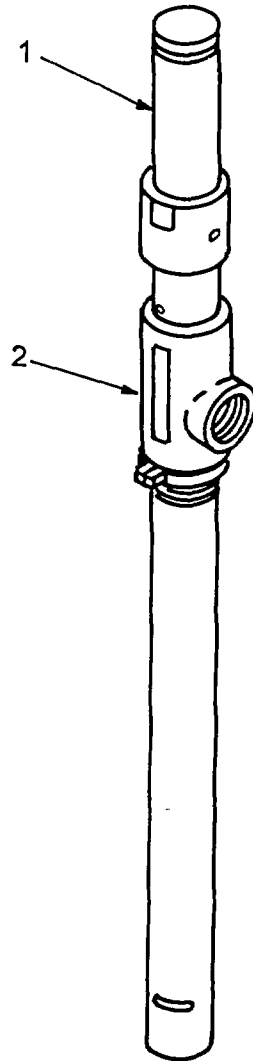

Figure 4-7. Transfer Pump
- a. Adjust. (Refer to Figure 4-7).
- (1) Run pump for approximately five minute.
- (2) Allow cylinder and plunger to cool.
- (3) Apply a maximum of 30 psi air pressure. If pump does not start or if leakage occurs, adjustment is required.
- (4) Loosen power head assembly (1) from pump casing (2) until its holes line up.
- (5) Place hole punch through holes. Hand tighten power head assembly (1) into pump casing (2). This will tighten Teflon packings.
- (6) Operate the transfer pump. If pump still leaks, notify next higher level of maintenance.